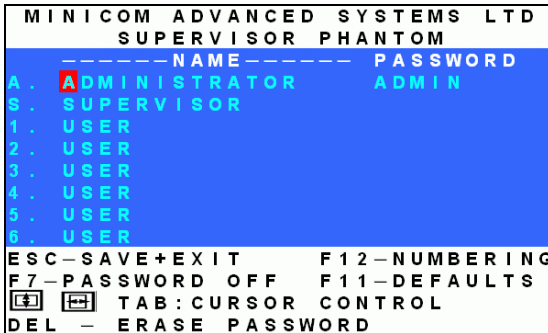

Figure 12 The Password window
3. Press **Enter**. The Password window appears. See Figure 12.